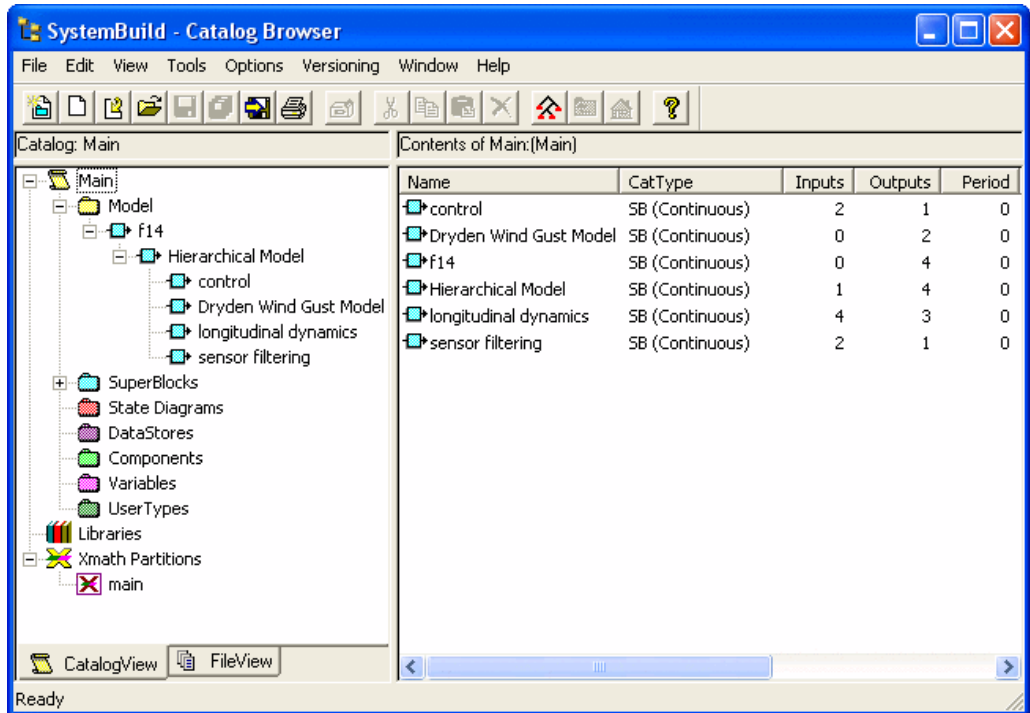

Figure 4-11. Expanded Hierarchy of the F14 Model
2. Continue expanding each level of the model, as shown in Figure 4-11.